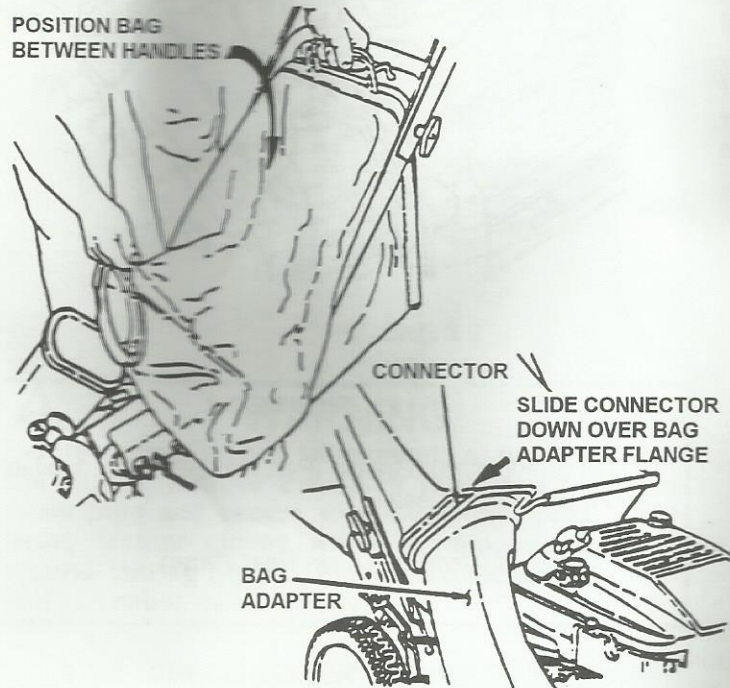
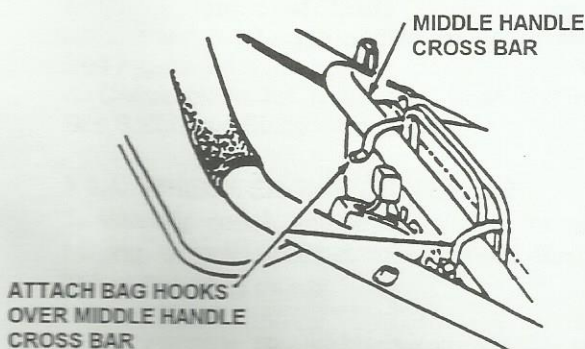

FIGURE 2.10
FIGURE 2.11
- Install grass catcher by sliding connector over flange of adapter. See Figure 2.10. Attach grass bag hooks over middle handle cross bar. See Figure 2.11.